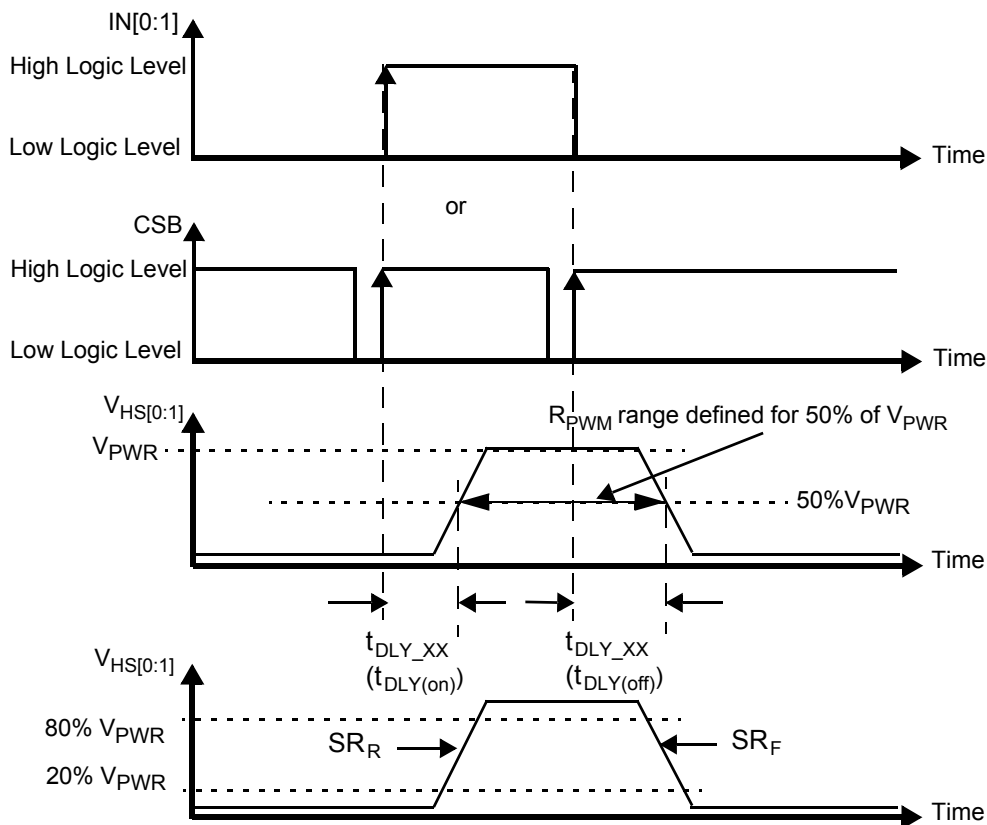
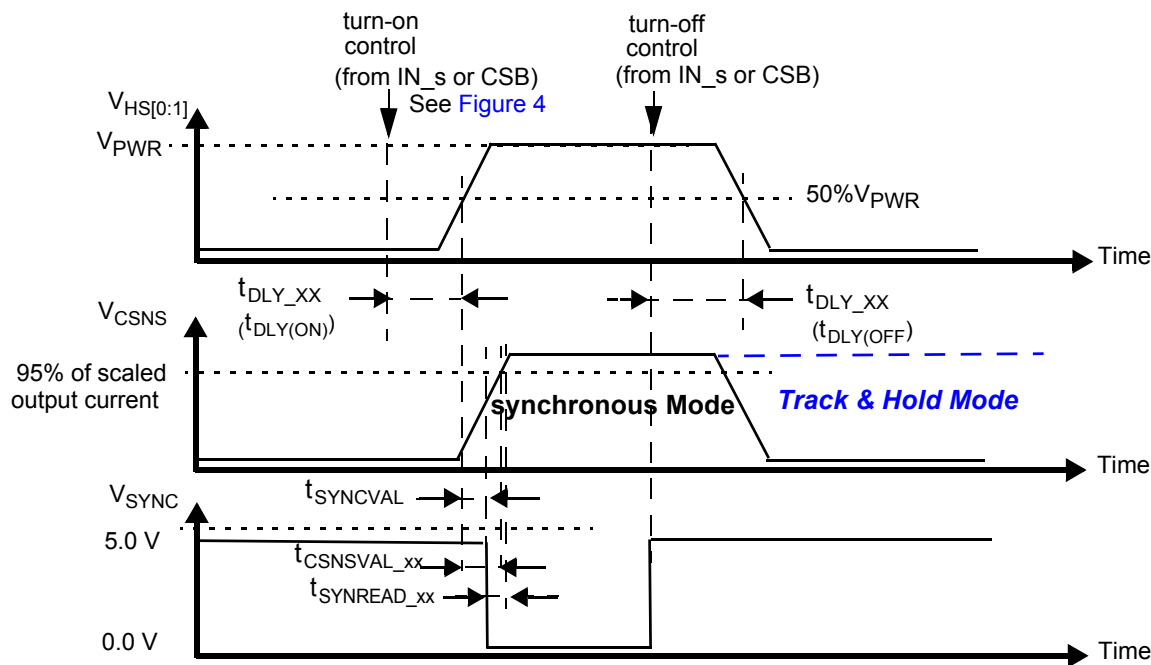

Figure 4. Output Voltage Slew Rate and Delay
Figure 9. Synchronous & Track-and-Hold Current Sensing Modes: Associated Delay & Settling Times
27. Rising and Falling edge slew rates specified for a 20% to 80% voltage variation on a  $10.0\ \Omega$  resistive load (see Figure 4).
29. Time required to switch off the channel after detection of overtemperature (OT), overcurrent (OC), SC or UV error (time measured between start of the negative edge on the FSB pin and the falling edge on the output voltage until  $V(\text{HS}[0:1]) = 50\%$  of  $V_{PWR}$ ).
30. Settling time ( $= t_{CSNSVAL\_XX}$ ), SYNC output signal delay ( $= t_{SYNCVAL\_XX}$ ) and Read-out delay ( $= t_{SYNREAD\_XX}$ ) are defined for a stepped load current ( $100\text{ mA} < I(\text{LOAD}) < I_{OCLX A}$  FOR  $\text{CSNS\_RATIO\_S} = 1$ , AND  $300\text{ mA} < I(\text{LOAD}) < I_{OCLX A\_0}$  FOR  $\text{CSNS\_RATIO\_S} = 0$ ). (see Figure 9 and Output Current Monitoring \(CSNS\)).
To synchronize current sensing with an external process, the SYNC signal can be connected to a digital input of an external MCU. SYNC is asserted logic low when the current sense signal is accurate and ready to be read. The current sense signal on the CSNS pin has the specified accuracy  $t_{SYNCREAD\_XX}$  seconds after the falling edge on the SYNC pin (Figure 9) and remains valid until a rising edge is generated. The rising edge that is generated by the SYNC pin at the turn-OFF instant (internal or external) may also be used to implement synchronization with the external MCU. Parameter  $t_{SYNCSVAL\_XX}$  is defined as the time between the instant at the middle of the output-voltage rising edge ( $HS[0:1] = 50\%$  of  $V_{PWR}$ ), and the instant at which the voltage on the SYNC-pin drops below 0.4 V ( $V_{SOL}$ ). The SYNC pins of different devices can be connected together to save micro-controller input channels. However, in this configuration, the CSNS function of only one device should be active at a time. Otherwise, the MCU does not determine the origin of the SYNC signal. The SYNC pin is open drain and requires an external pull-up resistor to  $V_{DD}$ .